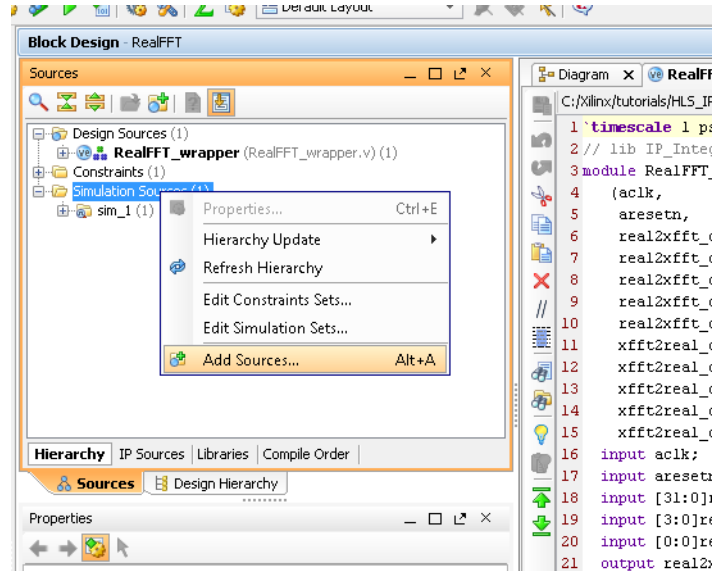

Figure 9-24: Adding Simulation Sources
- Right-click **Simulation Sources** in the Sources tab of the Project Manager pane (Figure 9-24).